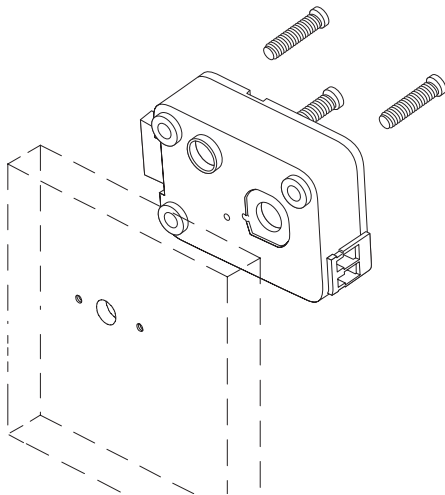

Figure 12
- ③ Using the three (3) mounting screws provided by the factory, screw down the lock to the mounting plate or door, see *Figure 12*.